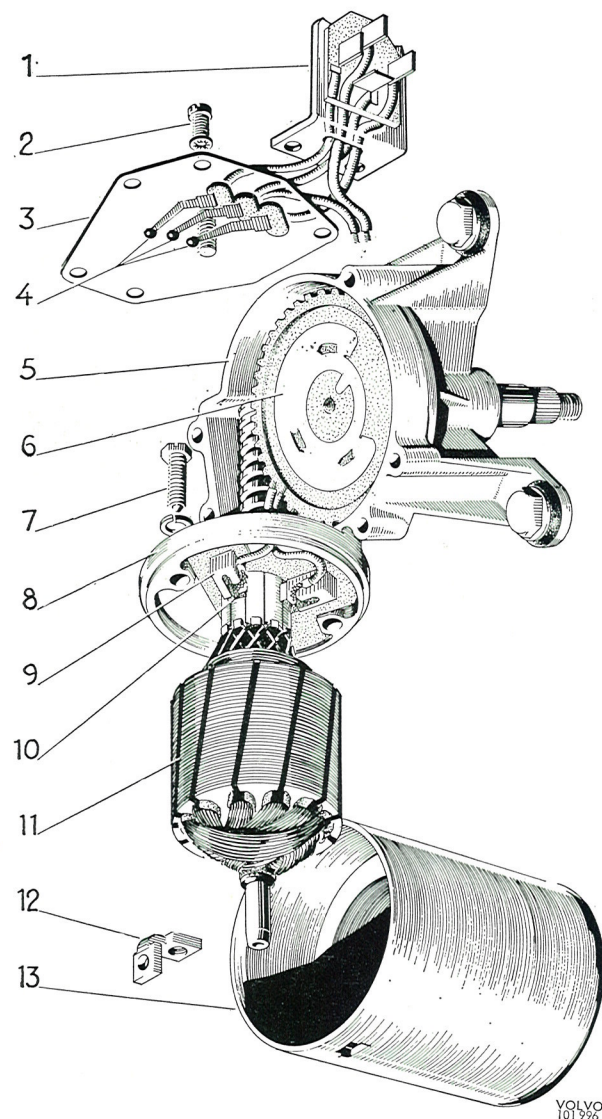

Fig. 3-79. Windshield wiper motor
Release the five screws (2, Fig. 3-79) and bend the cover (3) out of the way, then press out the plastic gear wheel. Remove the screws (7) and pull out the stator. Remove the screws for the negative brush and the washer on the ball bearing axial lock. Remove the washer for the axial lock. Move the brushes aside and carefully pull out the rotor. Take great care with the brushes since the ball bearing has a larger diameter than the collector. When assembling the motor, adjust the axial play for the plastic gear wheel (6) by means of the adjusting screw in the cover.